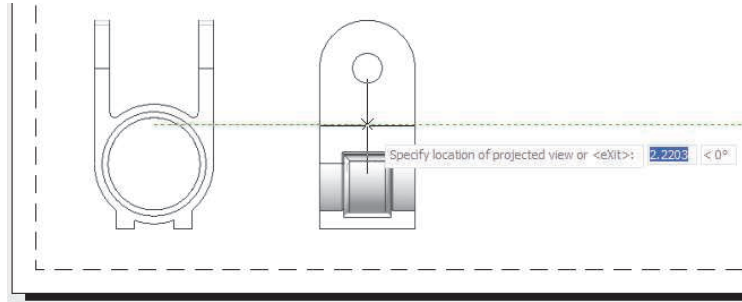

Figure 11–33
4. Drag the cursor to the required location around the parent view. When the preview displays as required, click in the location, as shown in Figure 11–33.